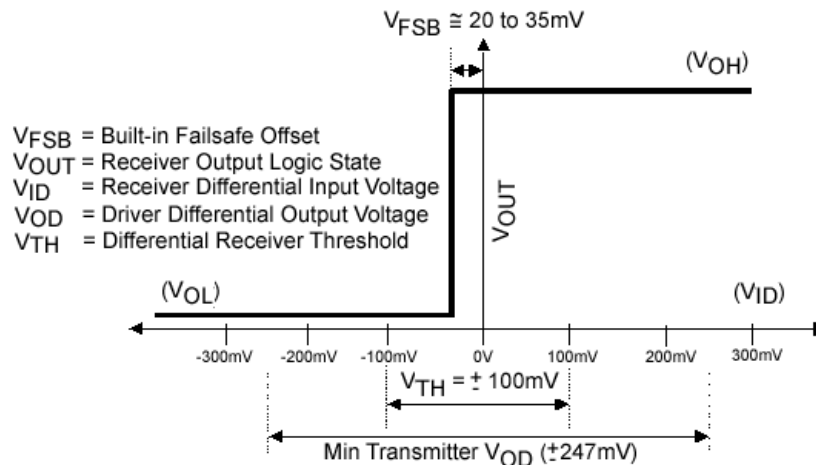

FIGURE 1. Differential Input Voltage versus Receiver Output Voltage
For Fairchild LVDS receivers designed with an internal failsafe bias, they typically will have an internal bias voltage of ≈ 20 to 35mV (Figure 1). In a cable application where the receiver will not always be driven by the transmitter and there is a potential for the presence of more than 20mV of
differential noise on the receiver inputs, additional failsafe resistors should be considered. The resistor values should be specified to overcome the differential noise and have minimal impact on the driver current. Figure 1 illustrates a typical differential input voltage versus the logic output state of the receiver.
1. Reviewing the circuit in Figure 1, with the driver card powered down ($V_{CC} = 0V$), the ESD protection diode network on the driver card is forward biased. This results in a clamping action of the diodes providing an alternate current path reducing the offset voltage created across the termination. The diodes forward bias causing an approximate worst case clamping of the line at $\approx 0.3V$ with respect to ground.